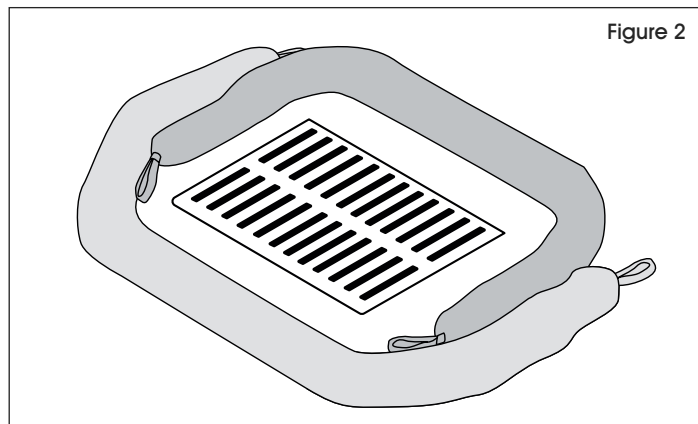

Figure 2
- b. **Multiple Socks:** Overlap ends to form a donut around grate. (See Figure 2)